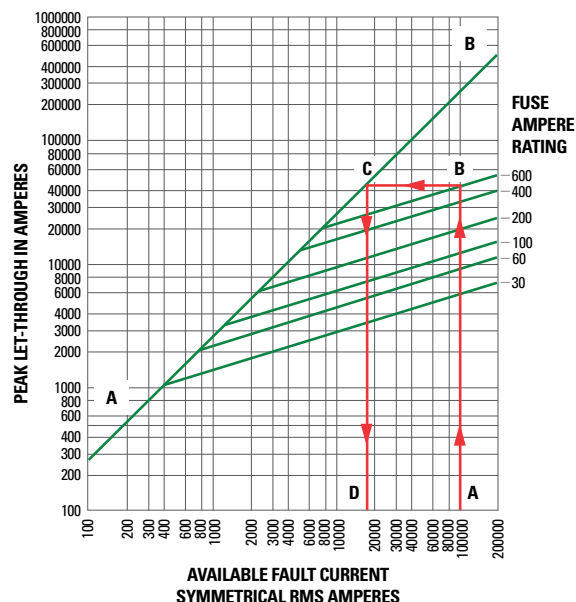

FIGURE 5. Peak let-through curve for POWR-PRO® LLNRK Class RK1 dual-element fuses using the “up-over-and-down” method.
For example, if we have an available fault-current of 100 000 rms symmetrical amperes and want to determine whether 600-ampere 250-volt time-delay Class RK1 fuses can sufficiently protect equipment that has a 22 000-ampere short-circuit rating (see **Figure 5**), then we will do the following:
1. Start by locating the 100 000-ampere available fault-current on the bottom of the chart (see **Figure 5(A)**) and follow this value upwards to the intersection with the 600-ampere fuse curve (see **Figure 5(B)**).
2. Follow this point horizontally to the left to intersect with the A-B line (see **Figure 5(C)**).
3. Read down to the bottom of the chart (see **Figure 5(D)**) to read a value of approximately 18 000 A.